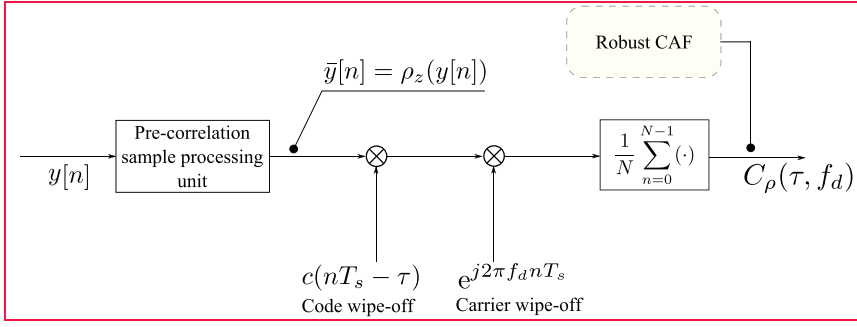

Figure 5: Robust CAF obtained using a pre-correlation sample processing block (from [2])
The results exposed above lead to the processing scheme depicted in Figure 5. Finally, the robust CAF can be interpreted as a form of Locally Optimum (LO) detector/generalized correlator [8], which is obtained by tackling the problem from a detection perspective.